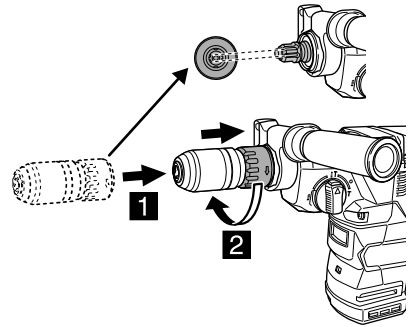

Fig. 19
- (1) Mesh the lock grip with spline.
- (2) Push in the lock grip, turning it in the arrow direction shown on the lock grip (**Fig. 19**).
- (3) To confirm that the lock grip is securely installed, tentatively try to pull out the lock grip.